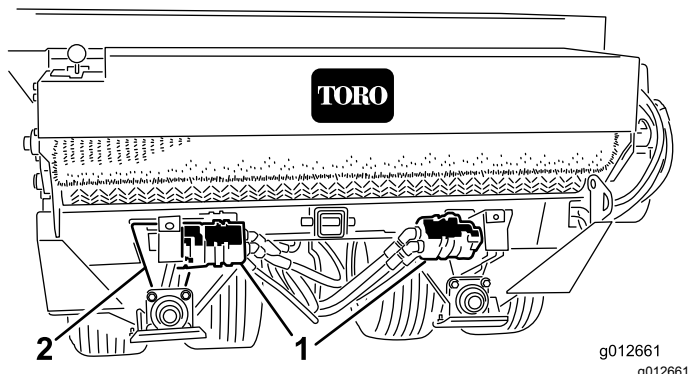

Figure 16
2. Loosen carriage bolts and nuts that secure the hydraulic motor/pump to axle cradle (Figure 16).
3. Rotate motor sprocket assembly (Figure 16) until the wheel-drive chain deflects 3.2 mm (1/8 inch).